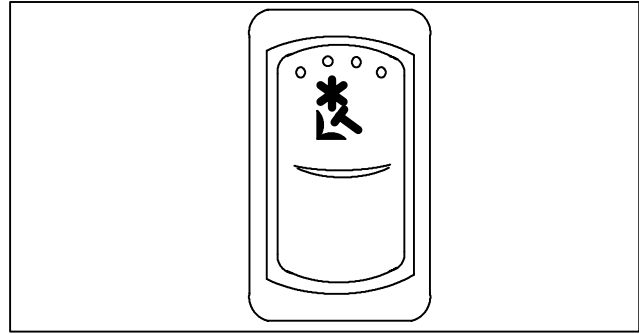

Figure 2-3. Driver A/C
- e. The Driver A/C Switch (Figure 2-3) allows the driver to control cooling with the driver's evaporator. When the switch is in AUTO, the driver's area cooling is controlled by the microprocessor controller. When the switch is in COOL, the driver's area is demanding cooling, even if the microprocessor is calling for heating in the passenger area.